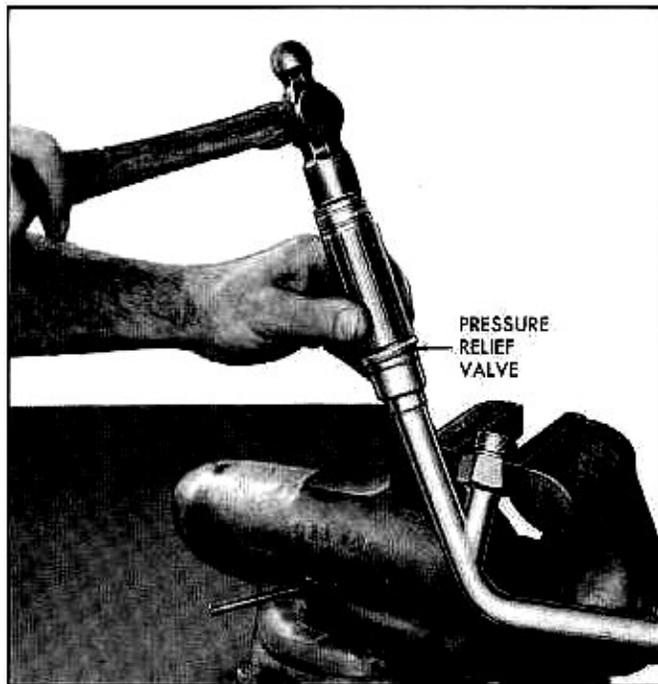

Fig. 7—Installing Pressure Relief Valve
2. Using a 15/16" socket tap the relief valve into tube until the valve shoulders on the tube (fig. 7).